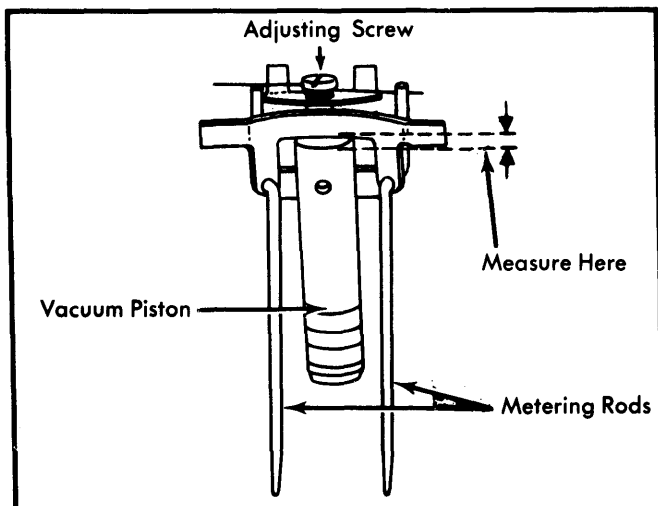

Fig. 4 Vacuum Step-Up Piston Gap Qualification
1) Remove step-up piston cover plate and gasket. Remove lifter lock screw and remove piston. See Fig. 4.